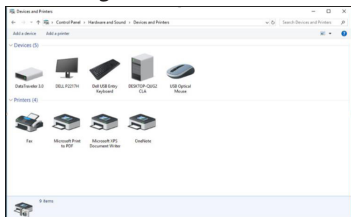

Figure 12
1. Navigate to the **Control Panel** screen and select the **Devices and Printers** icon. (*Figure 12*)